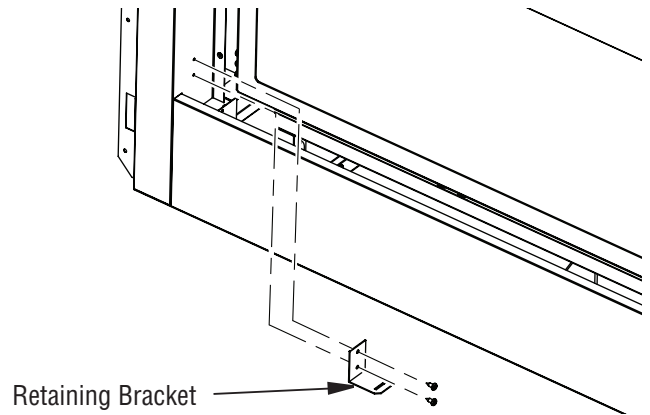

Figure 22 - Installing Access Door Retaining Brackets for See-Thru Applications
1. Screw access door retaining brackets into the inner side face using 2 screws on both the left and right side as shown in **Figure 22**.